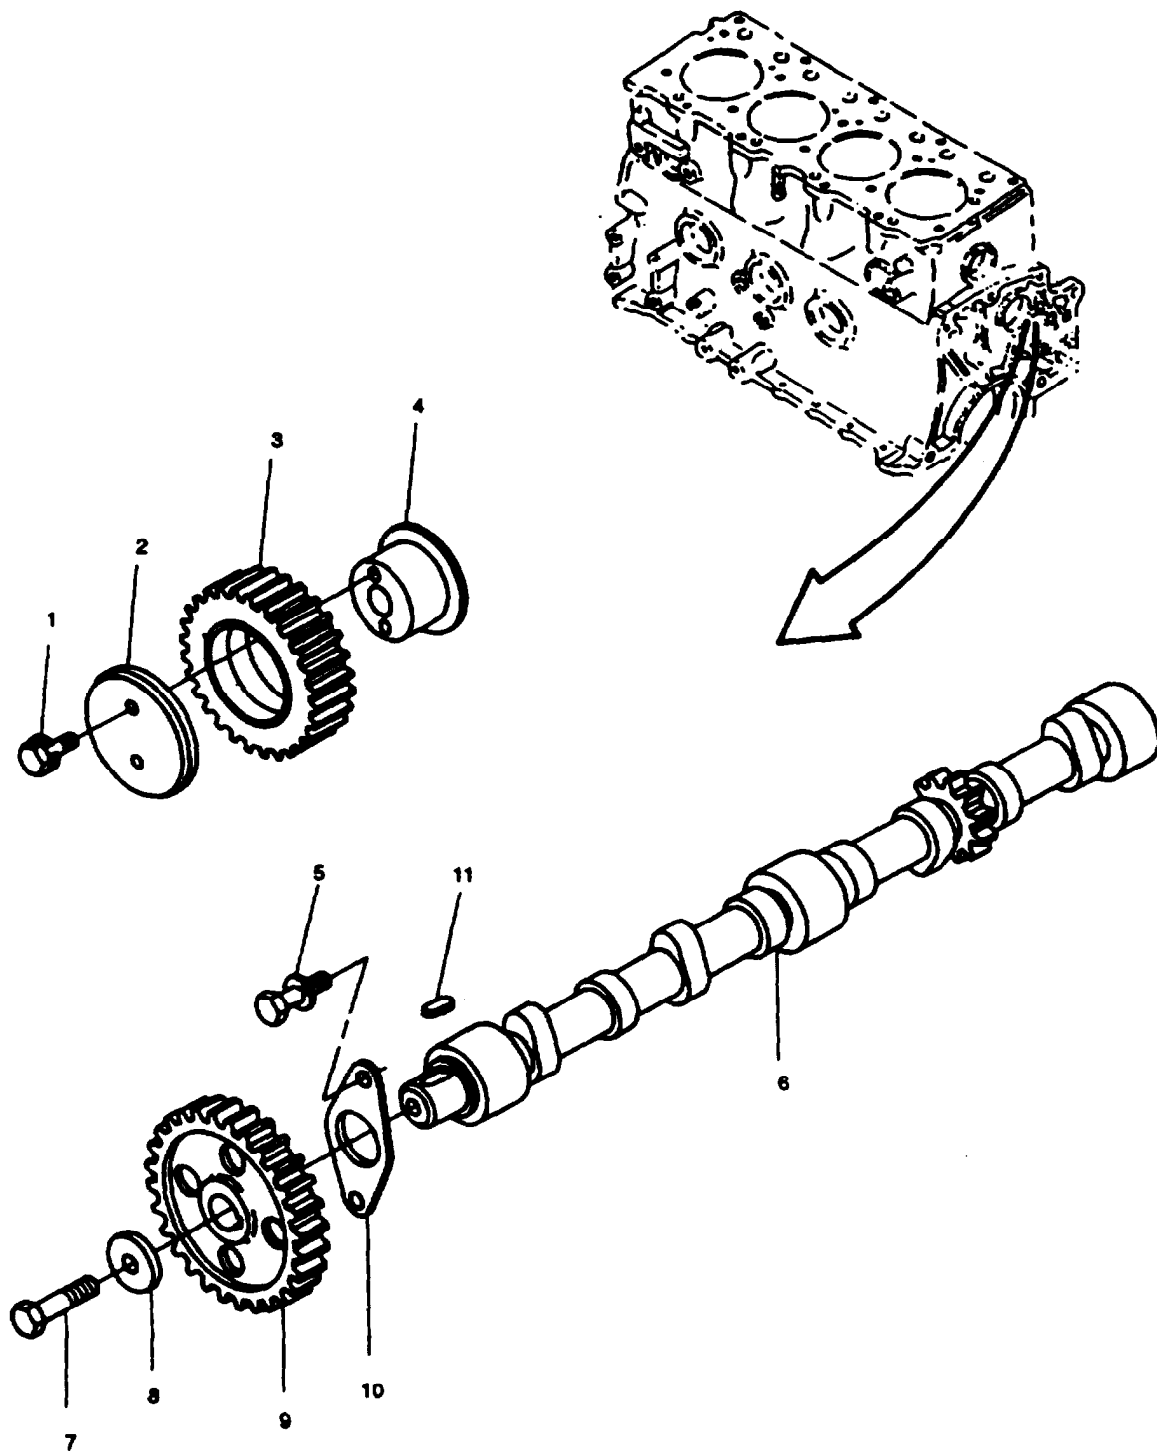
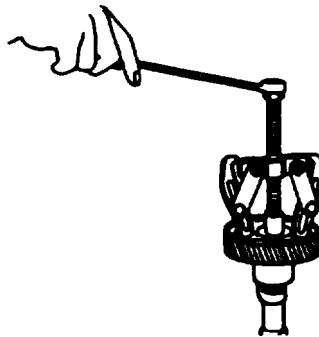

FIGURE 3-101. Camshaft and Idler Gear Assemblies
FIGURE 3-102. Thrust Plate Removal
- (1) Insert feeler gage between idler gear (3, FIGURE 3-101) and thrust collar (2) and measure gap.
- (2) Standard end play (gap) is 0.003 in. (0.07 mm), with a limit of 0.008 in. (0.2 mm)
- (3) If end play exceeds limit, replace thrust collar (2).
- k. Remove two screws (1) securing thrust collar (2), idler gear (3) and shaft (4). Remove gear (3) from shaft (4).
- a. Clamp camshaft (6, FIGURE 3-101) in a soft-jawed vise.
- c. Remove bolt (7) and washer (8) from gear end of camshaft (6)
- d. Using a universal puller, remove gear (9) from camshaft (6)
- e. Remove thrust plate (10) and key (11) refer to FIGURE 3-102.
- b. install key (11) and thrust plate (10) on camshaft (6).
- c. Place timing gear (9) on camshaft with stamped timing mark facing out.
- d. Apply engine lubricating oil (ML-L-2104) to threads of bolt (7). Install bolt (7) and washer (8) on camshaft and tighten bolt to 79.5 ft-lbs (107.8 Nm).
- a. Apply a coat of engine lubricating oil (ML-L-2104) to camshaft (6, FIGURE 3-101) and camshaft bearings.